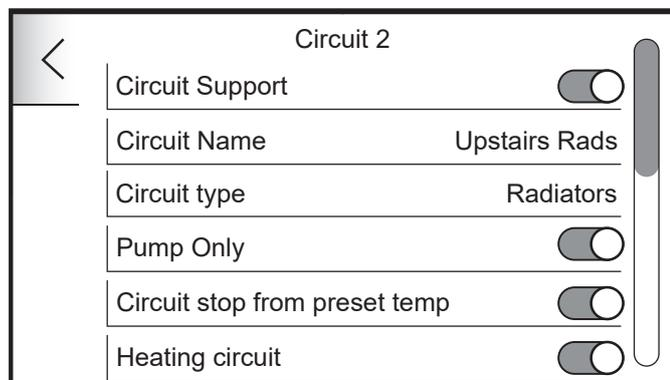

Figure 7-15: Edit Circuit 2 settings
If a mixer is not specified, 'PUMP ONLY' will be automatically set to **ON** within the circuit control settings. This will also display the 'CIRCUIT STOP FROM PRESET TEMP' control within the circuit settings. Refer to Figure 7-15.
4. Swiping the touchscreen display scroll down to 'CIRCUIT STOP FROM PRESET TEMP'. Tap the icon to switch on. (Refer to Figure 7-15).
'PUMP ONLY' must be enabled. Refer to Figure 7-15.